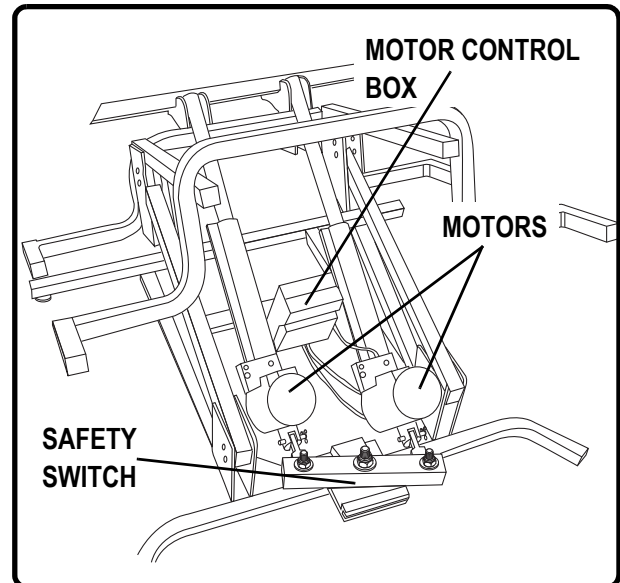

Figure 6.1 Out-of-sync Motors
1. Activate the hand control on the lift chair. If there is no movement in either direction, check if the motors are out of sync and that the pressure-sensitive safety switch has been activated. Out-of-sync motors will show one motor extended farther than the other and a pinched safety switch (Fig. 6.1).